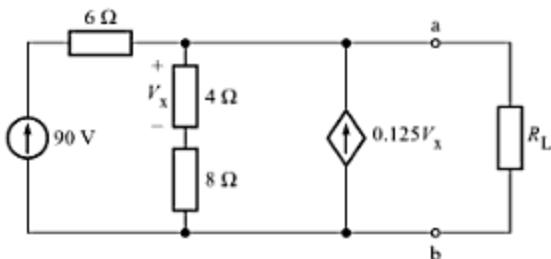

Fig. A-122
- A-89. In the circuit of Fig. A-122, what resistor  $R_L$  will absorb maximum power and what is this power?